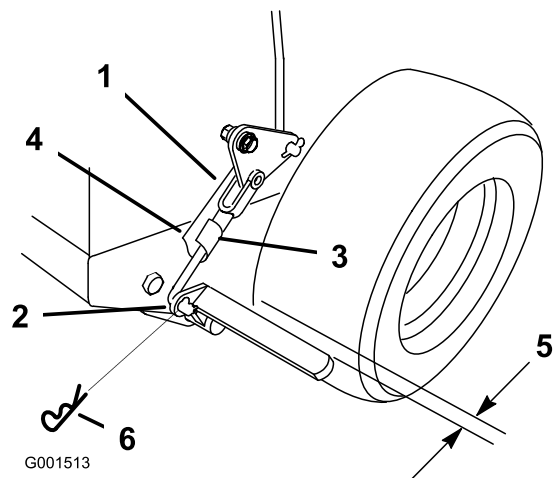

Figure 47
3. Remove the spring hair pin from the lower brake link (Figure 47).
4. Rotate the lower brake link yoke clockwise into the yoke to tighten the parking brake; rotate the brake link yoke counterclockwise out of the yoke out to loosen the parking brake (Figure 47).
Note: There should be approximately 1/4 inch clearance between the tire and the flat bar when the parking brake in the released position (Figure 47).
5. Secure the lower link to the lower brake lever with the hair pin cotter and the clevis pin (Figure 47).